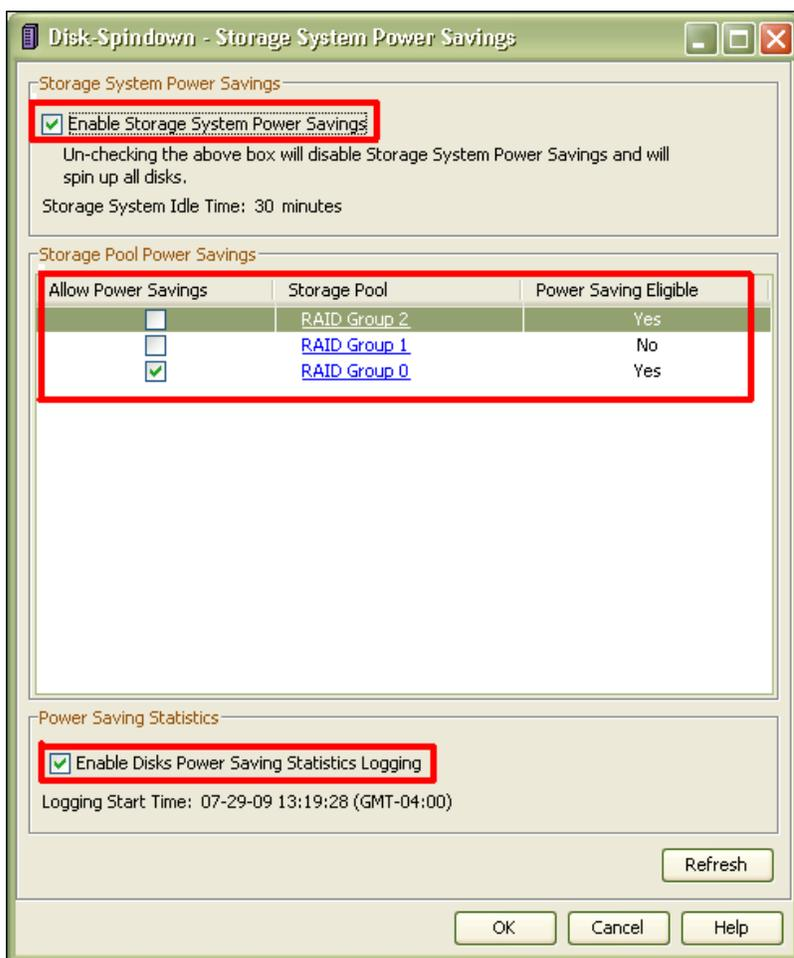

Figure 1. Storage System Power Savings dialog box
To manage this feature in Navisphere Manager, right-click the storage system’s serial number and select **Power Savings...** to open the **Storage System Power Savings** dialog box shown in Figure 1.
- Check the spin-down setting at the storage system level. There is a link that opens up the Storage System Power Savings window shown in Figure 1.
- If **Disk Power Saving Statistics Logging** is enabled on the storage system. There is a link that opens the **Storage System Power Savings** dialog box shown in Figure 1.
If **Power Saving Statistics Logging** is enabled, FLARE maintains a spin-down log on the storage system; the information in this log can help data-center managers evaluate system performance. This feature has to be enabled (or disabled) at the storage system level (shown in Figure 1). The counters are maintained and can be viewed at the drive level (shown in Figure 6). By default, this feature is *not* enabled on the storage system.
The first four counters are displayed in the Bus Enclosure dialog box (shown in Figure 6), and the Logging Start Time counter is displayed in the **Storage System Power Savings** dialog box (shown in Figure 1).